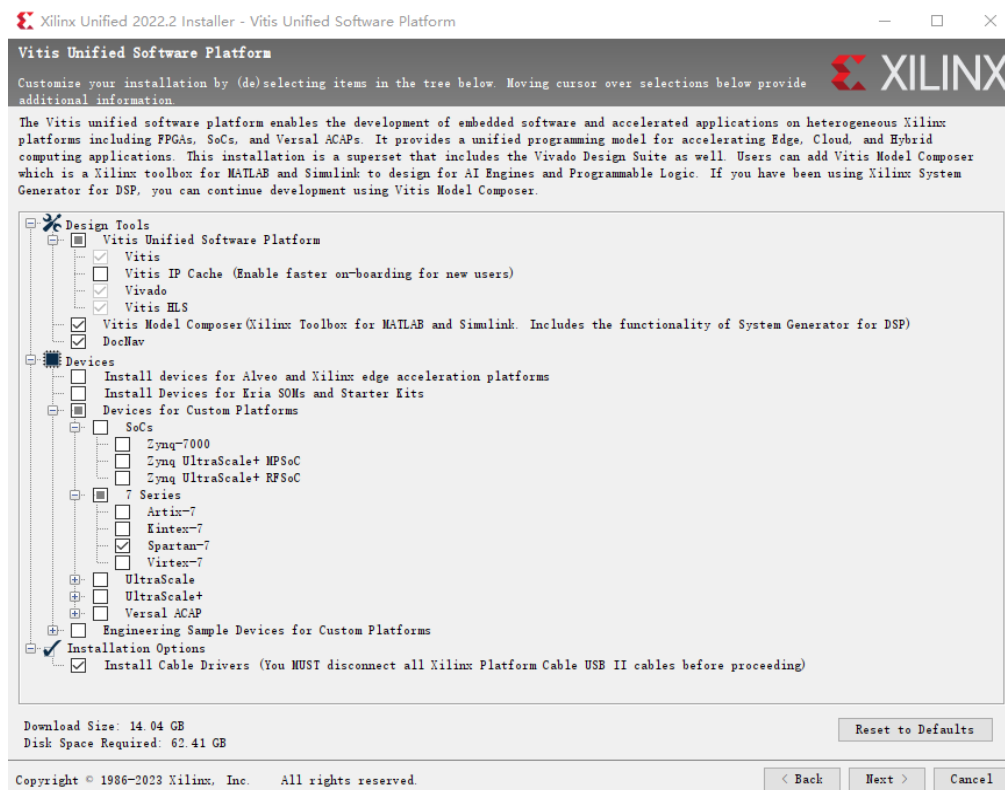

Figure 1 - Minimal Install for ECE 385
- Open the installer, press *Next*. Fill in your User information for your Xilinx account, choose **Download and Install Now**, click *Next*. Select *Vitis* as the product to install, click *Next*. Mark related boxes for installation guided by Figure 1, click *Next*. Select installation destination, disk usage is around 63 GB. Click *Next* and start installation.